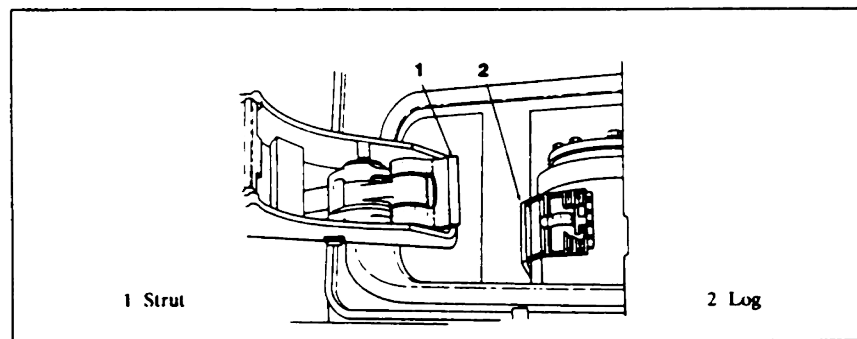

FIGURE 30. BRAKE ENGAGING MECHANISM
Step 2. Ensure the brake band struts engage the lugs on the brake band as you install the brake actuating mechanism (Figure 30).